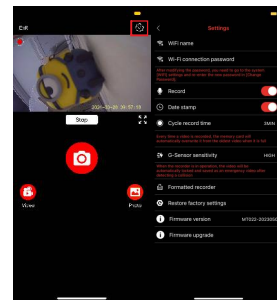

Figure 10
5.8 In the page for recording video, click the icon in right upper corner to get into setup page for camera parameters, please set up according to your demands.(See Figure 10)